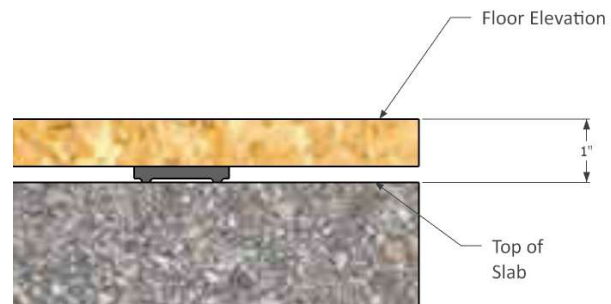

Figure 5: Dimensional Coordination
- Fig. 5: Dimensional coordination places Top of Concrete (TOC) 1-inch below Floor Elevation.